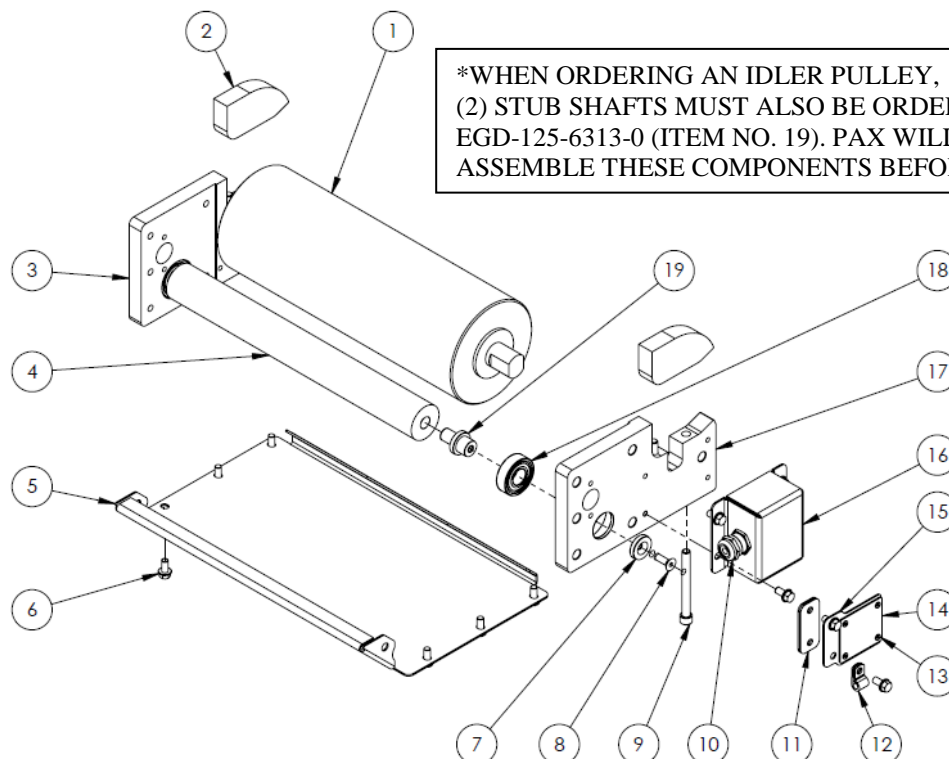

Figure 4. DRIVE END COMPONENTS
- 4) Using a 3/8" wrench; remove the (6) screws that fasten the drive pulley cover. Remove the motor cover (Item 5, Figure 4).
| 8 | (SEE FIGURE 4) | DRIVE END COMPONENTS | 1 |